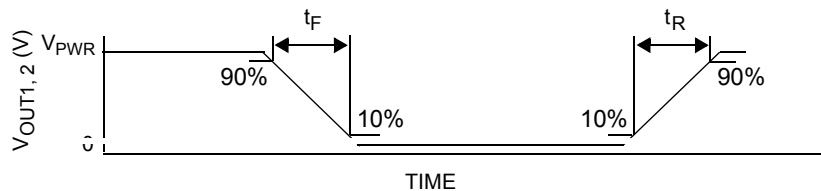

Figure 6. Output Switching Time
27. Rise Time is from the 10% to the 90% level and Fall Time is from the 90% to the 10% level of the output signal with $V_{\text{PWR}} = 14\text{ V}$, $R_{\text{LOAD}} = 3.0\text{ ohm}$. See Figure 6, page 10.